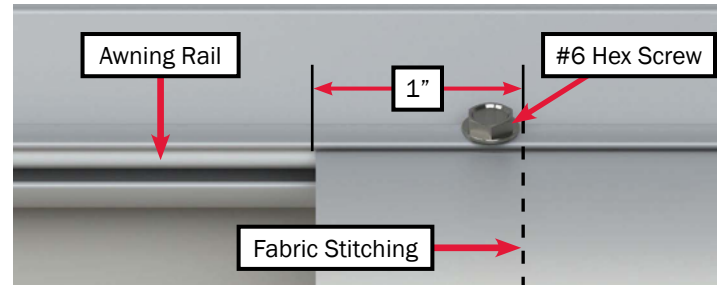

Figure 8
- Secure the fabric in the awning rail no more than 1" inside the edge of the fabric on both ends using a #6 x 1/2" hex-head screw. Install the screw down through the awning rail into the fabric and the poly-cord (Fig. 8).